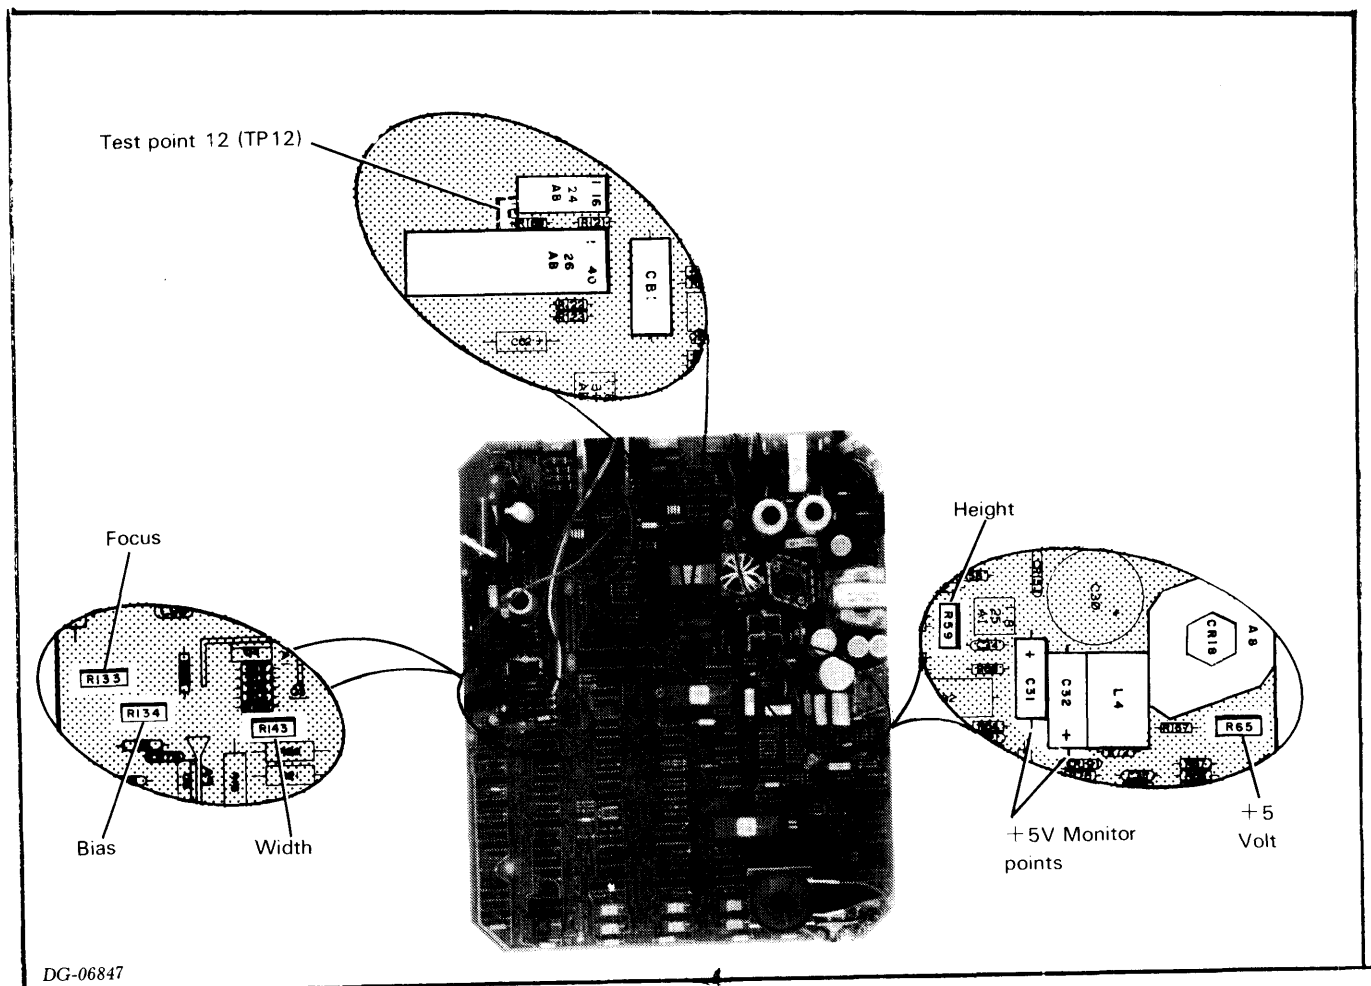

Figure 9.1 +5V monitor points and potentiometer locations
1. Connect a digital voltmeter (DVM) across the +5V monitor points described below (see figure 9.1). Be careful not to short any of the nearby components.
1. Fill the screen with characters by temporarily shorting test point 12 (TP12) to the CRT support bracket (see figure 9.1).
2. Adjust the width potentiometer so that the width of a full line of characters is 8.5 +/- 0.25 inches, 21.6 +/- 0.6 centimeters (see figure 9.1).
2. Adjust the bias potentiometer clockwise until a light background begins to appear, then turn it in the opposite direction until it disappears (see figure 9.1).
2. Adjust the height potentiometer so that the height of a full column of characters in the middle of the screen is 5.5 +/- 0.25 inches, (14.0 +/- 0.6 centimeters); see figure 9.1.
3. Adjust the focus potentiometer so that the characters located halfway between the center and the corners of the screen are focused as best as possible (see figure 9.1).